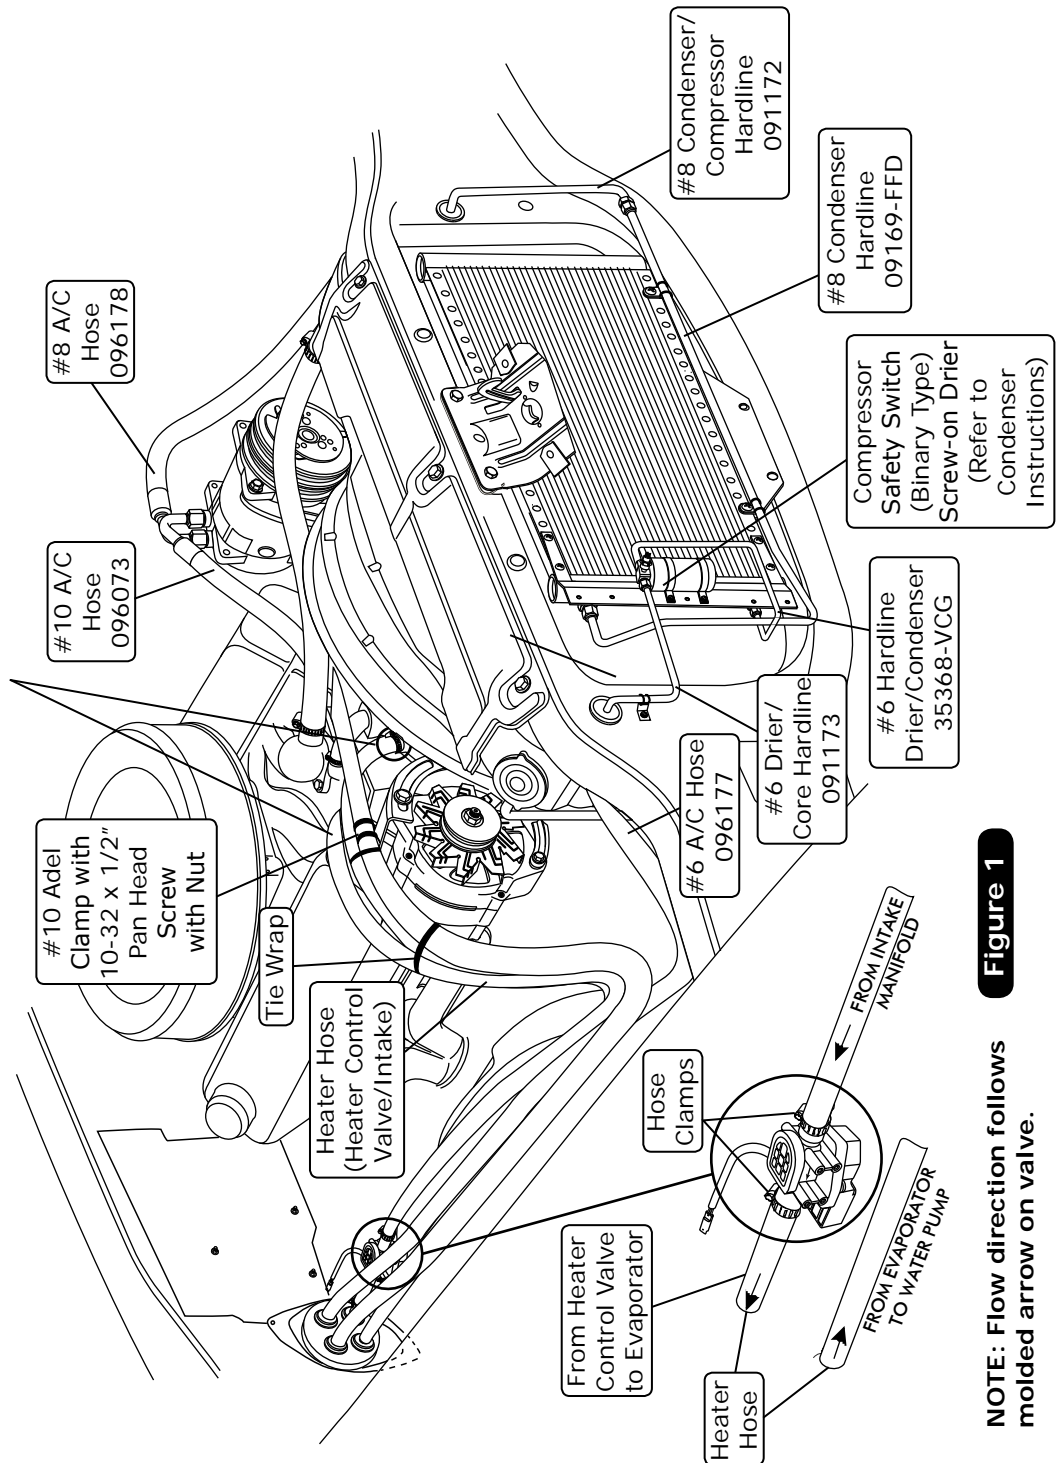

Figure 1
1. Route a piece of heater hose from the water pump to the top heater fitting of the heater core as shown in Figure 1, Page 16, and Figure 1, below. Secure using hose clamps.
2. Route a piece of heater hose from the intake to the bottom heater fitting of the heater core as shown in Figure 1, Page 16, and Figure 1, below. **NOTE: Install heater control valve in line with intake manifold (pressure side) heater hose. Secure using hose clamps as shown in Figure 1, below. Also note proper flow direction.**
1. Install duct hoses as shown in Figure 1, Page 21.